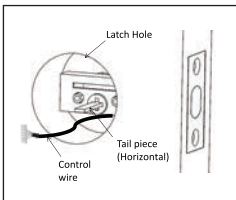

Figure 8c
- Insert the Exterior Assembly onto the door with the tailpiece going through the Deadbolt Latch Set cross shaped spindle connector in the HORIZONTAL POSITION. Route the Control Wire through the door under the Deadbolt Latch Set (Figure 8c).